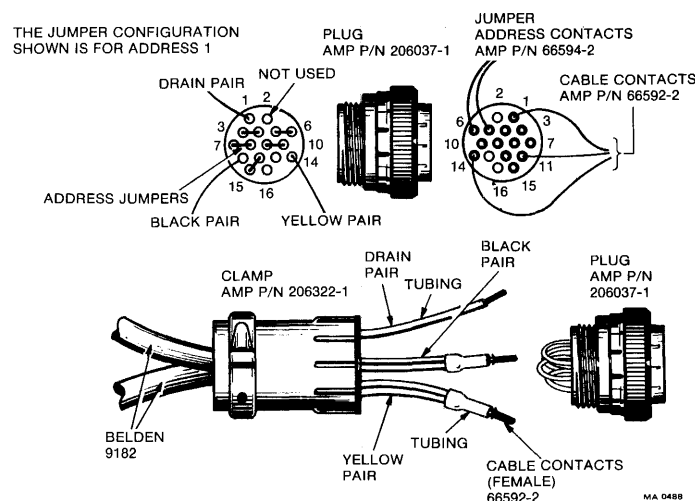

Figure 3-4 DECdataway Port Connector
3.2.4.3.2 Connection to One DECdataway Port (refer to Figure 3-4 and Table 3-6) – Perform the following steps when connecting the DECdataway cable to one port.
1. Refer to Table 3-6 and Figure 3-4 and assemble the required parts.
3. Insert the jumpers into the plug (AMP P/N 206037-1). Refer to Table 3-7 and Figure 3-4 for jumper locations.
Pin 2 is not used. The other pins (3,4,5,6,7,8,9,10,12,13,15,16) will be used according to the port address selected. The orientation of the signal pair, black to 11 and yellow to 14, is not electrically significant. However, maintaining a standardized wiring scheme, as recommended, will facilitate cable maintenance. Refer to Figure 3-4.